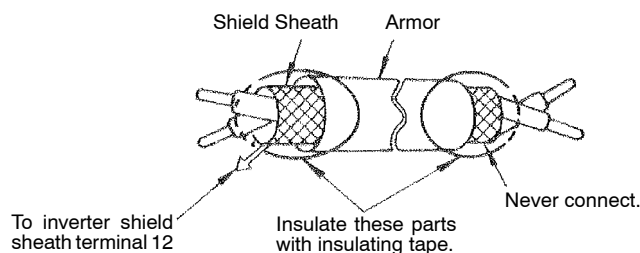

Fig. 17 Shielded Wire Termination
- Use twisted shielded or twisted-pair shielded wire for the control circuit line and connect the shield sheath to the inverter terminal 12. See Fig. 17. Wiring distance should be less than 50 m.